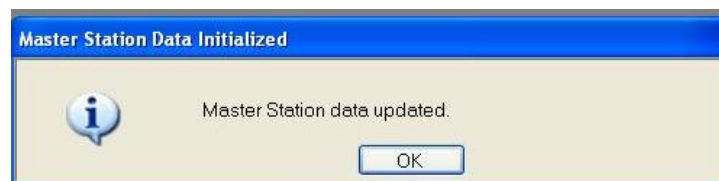

Figure A-14: Master Station Data Initialized Window
4. Click **OK** to proceed. If initialization is successful, the *Master Station Data Initialized* window will display indicating Master Station data updated. (Figure A-14).